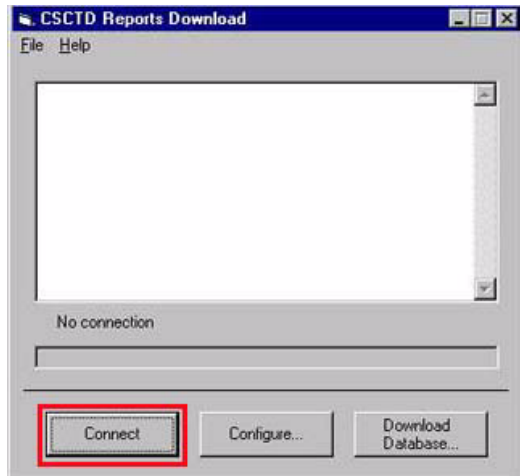

Figure 6
- 11.4.4 The box pictured (See Figure 6) will appear on the screen of the PC. Click on the 'Connect' button pictured, which will toggle 'No Connection' to 'Ready to receive data'. This completes the setup for the CSCTD 'Reports Download'.